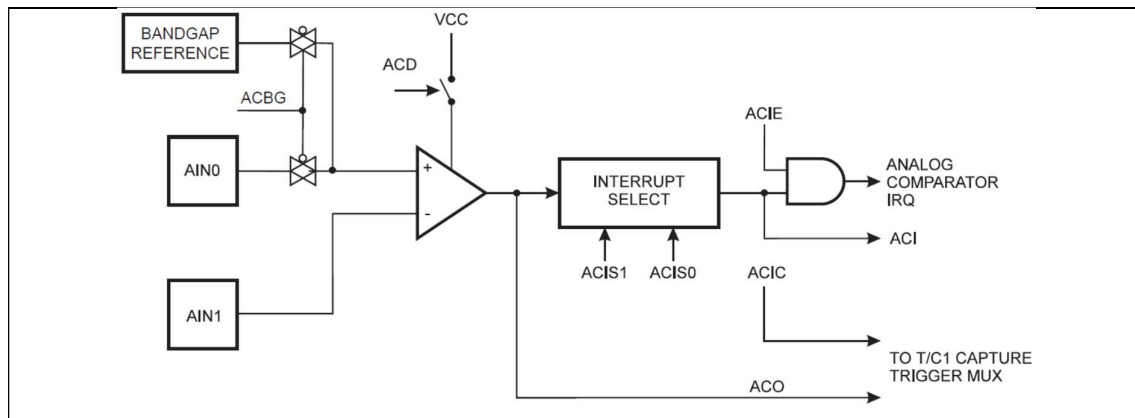

Figure 4. Diagram of the internal Analog Comparator module of the AVR ATmega162.
- c. The ATmega162's Analog Comparator module described in Figure 4 can be used to trigger an input capture event in Timer/Counter 1. Explain how you can exploit this mechanism together with a few external resistors to make level measurements with the ultrasonic transducer.